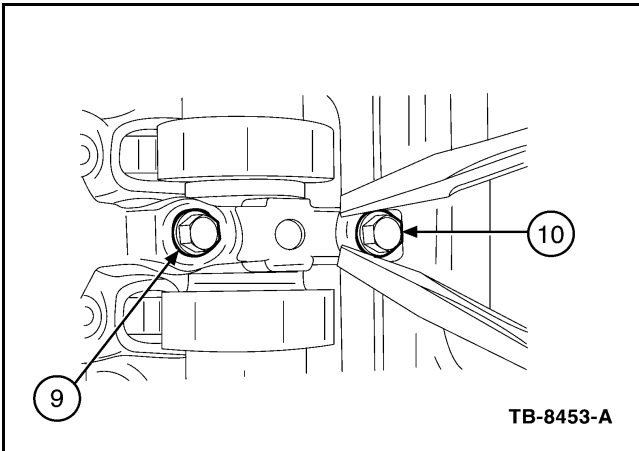

Figure 3 - Article 06-3-5
5. Using a screw driver positioned on each side of the top of cam cap number 8L (Figure 3) apply hand pressure and shift cam cap number 8L toward the exhaust side of the cylinder head.
6. While holding cam cap number 8L in the shifted position, torque the fasteners number 9 (inboard) first, to 72 lb-in (8 N•m) then torque fastener number 10 (Figure 3).